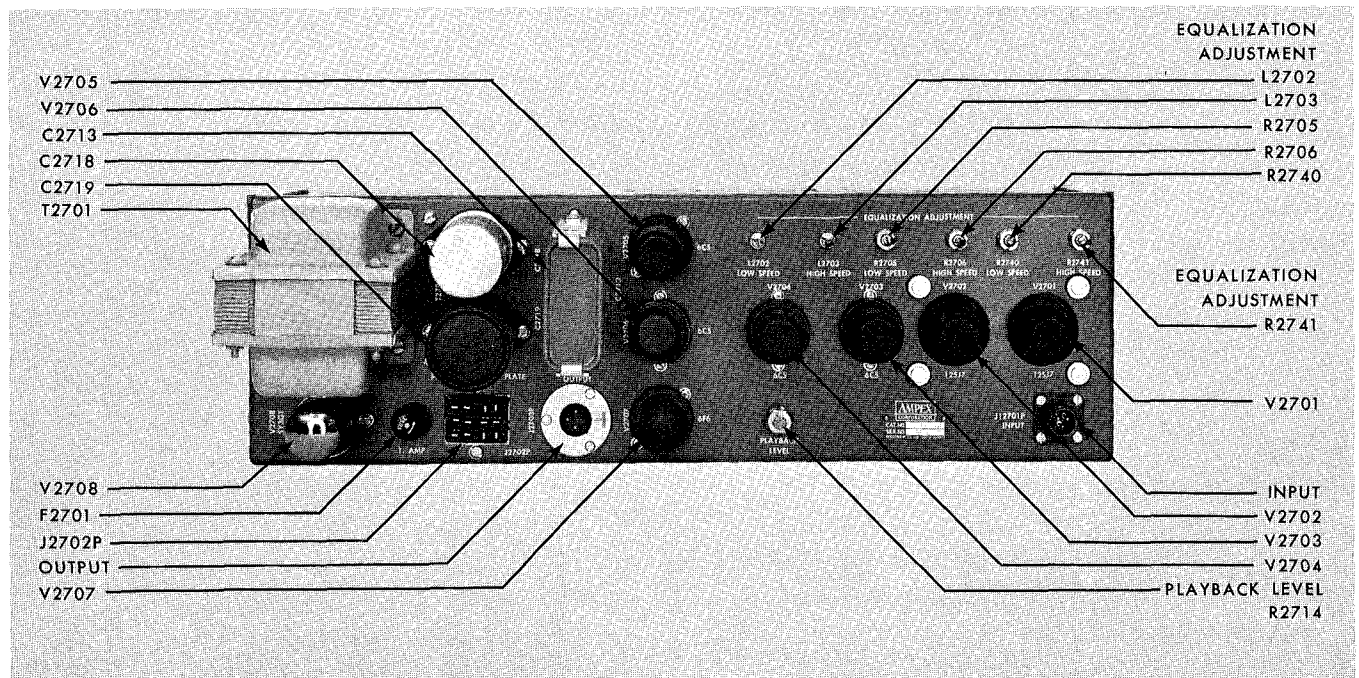

Figure 6-1
Step 6: Check the a-c filament voltage with an a-c voltmeter at the terminal board as indicated in Fig. 6-1. This reading should be 6.3 volts, a-c, ± 0.2 volt.
Step 7: Check the d-c filament voltage with a d-c voltmeter at the terminal board as indicated in Fig. 6-1. This reading should be 12.5 volts, d-c, ± 1 volt.